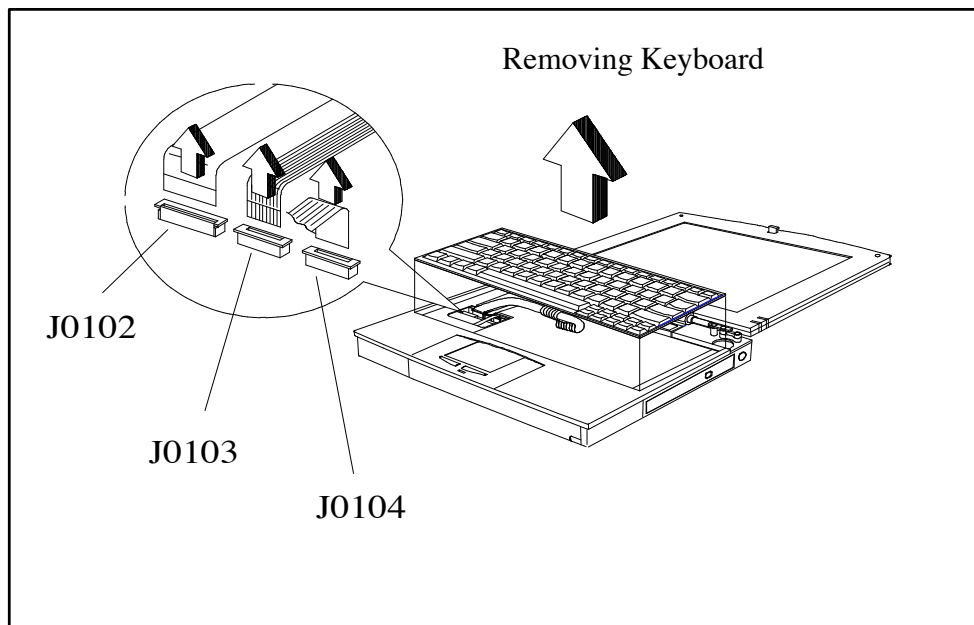

Figure 6-7 Removing/Replacing the Keyboard Assembly
4. Pull up on the keyboard as shown in Figure 6-7 and disconnect the Touchpad cable connector J0104.